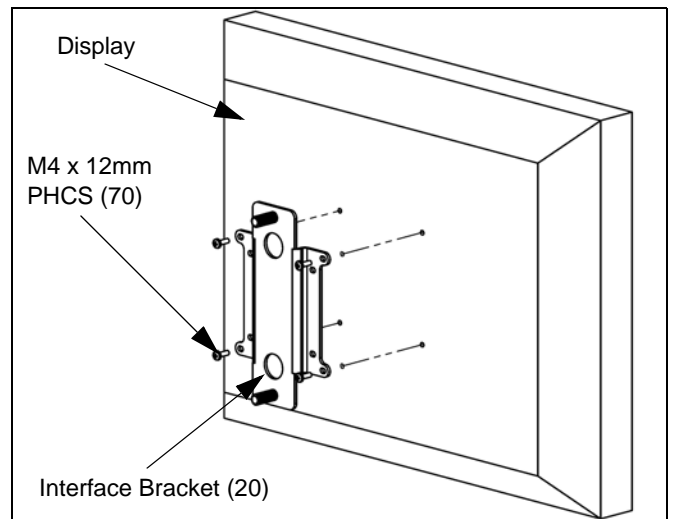

Figure 4: Flush Mount Interface Installation
2. Position interface bracket (20) over display back and align mounting holes with mounting holes in display. (see Figure 4)
3. Secure interface bracket (20) to display using four M4 x 12mm PHCS screws (70). (see Figure 4)